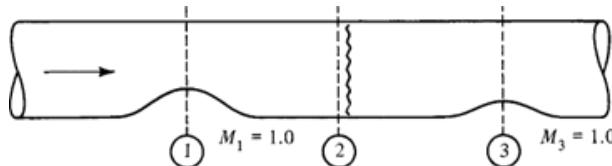

Figure P6.4
- 6.4** It is known that sonic velocity exists in each throat of the system shown in Figure P6.4. The entropy change for the air is 0.062 Btu/lbm – °R. Negligible friction exists in the duct. Determine the area ratios  $A_3/A_1$  and  $A_2/A_1$ .